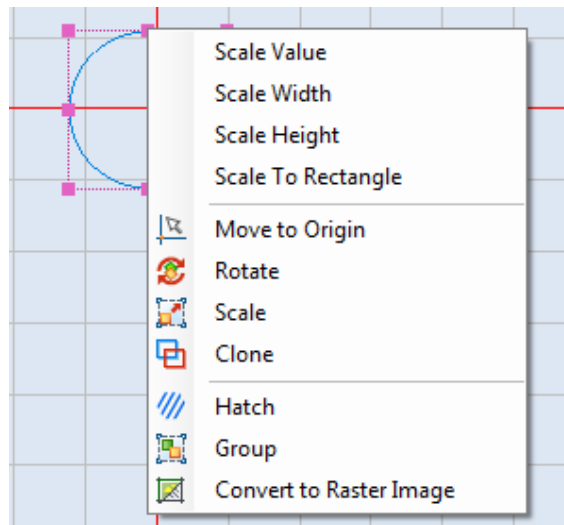

Figure 393: The boundary box popup menu
1. Display the boundary box popup menu by right-clicking on any Shape(s) with a boundary box. This displays the boundary box popup menu shown in Figure 393 on page 325.